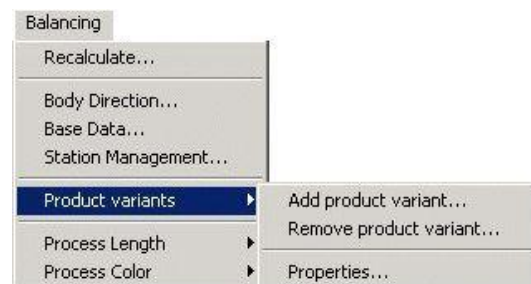
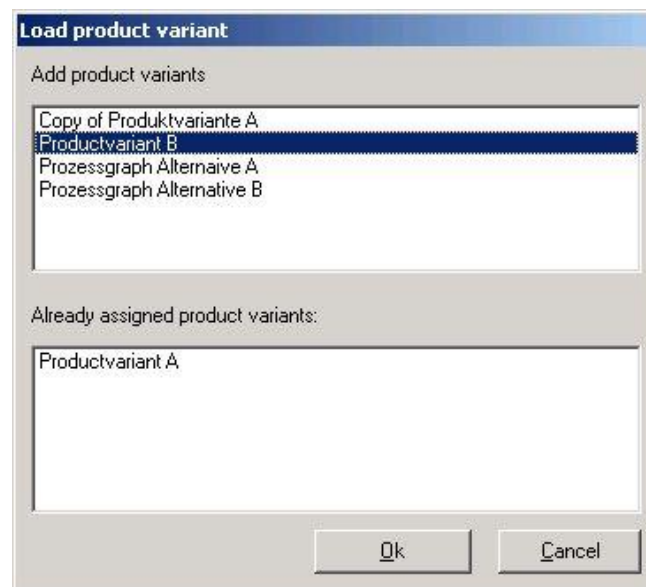

Figure 207: Product Variants Menu
Figure 209: Add Product Variants Dialog
- 1) In the Product variant menu select the menu item *Add product variants* in order to add variants. The process graphs of the possible product variants are displayed in the upper window of the dialog. Please refer to the Figure 207 and Figure 209.